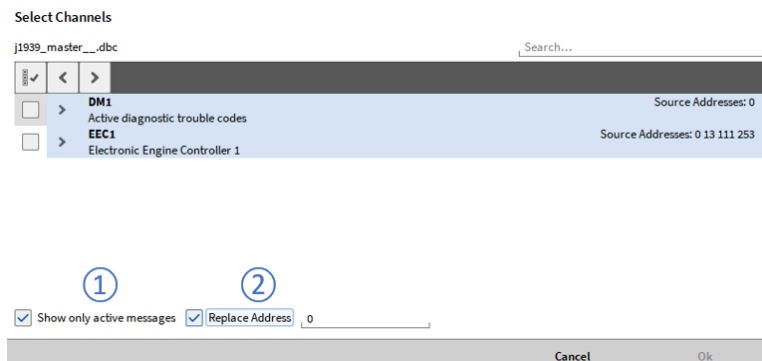

Fig. 7.197: Channel picker for SAE J1939 messages and signals
If a dbc- or arxml file is loaded that contains J1939 messages, the source Address will be displayed when Show only active messages is activated (see ① in Fig. 7.197). By Selecting Replace Address it is possible to replace the current source address of the dedicated mes-sage by a user defined one (see ② in Fig. 7.197).